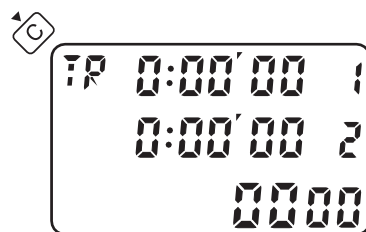

Fig. 18
- Press C button until the stopwatch goes to the TIMER mode. The display is as shown in Fig.18. The top row is the display for the 1st timer and the middle row is the display for the 2nd timer.